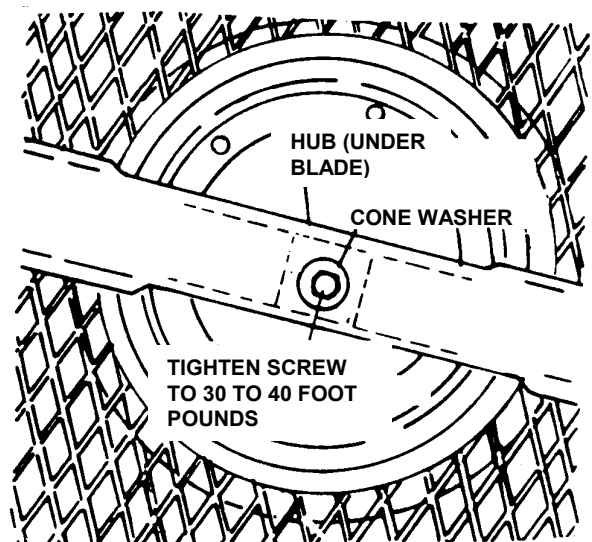

Figure 2 - Blade Installed After Screen
2. Reinstall the cutting blade, position widest part of cone washer next to the blade then reinstall the retaining screw and tighten to 30 to 40 ft. lbs. torque. See Figure 2.